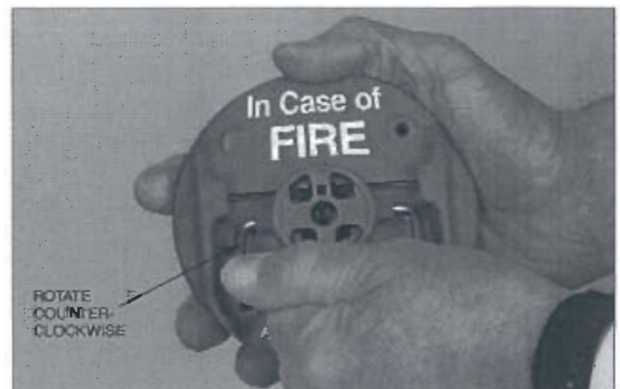

FIGURE 78
- Hold the pull knob assembly against the faceplate. Rotate the pull knob assembly counterclockwise until the break rod and pull knob snap in place. See Figure 78.